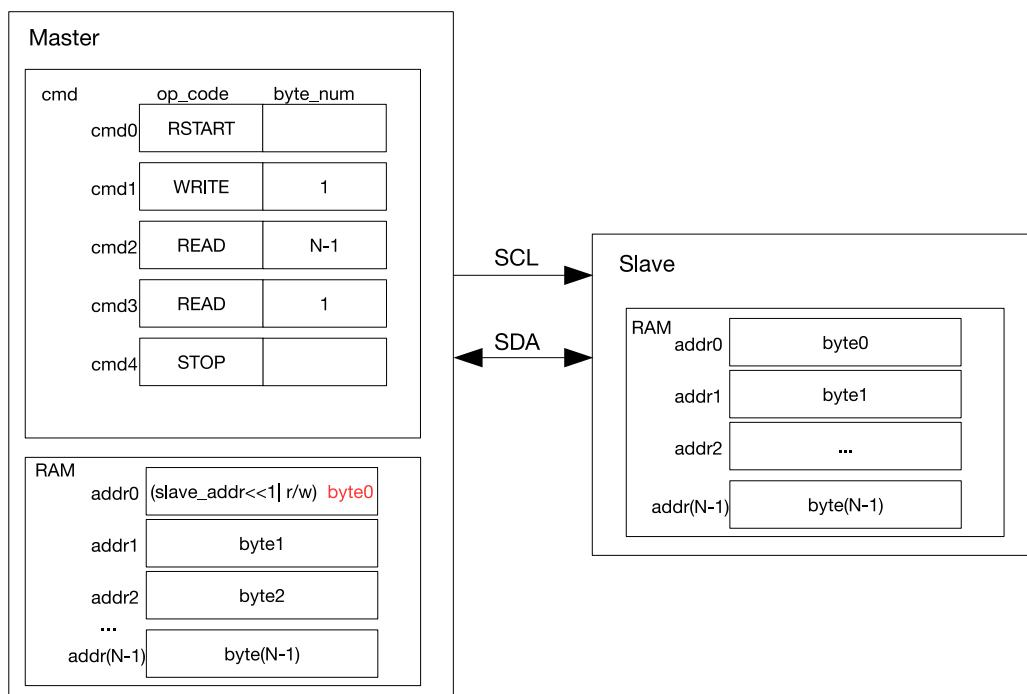

Figure 21-10. $I2C_{master}$ Reading $I2C_{slave}$ with a 7-bit Address
Figure 21-10 shows how $I2C_{master}$ reads N bytes of data from an I2C slave's registers or RAM using 7-bit addressing. cmd1 is a WRITE command, and when this command is executed, $I2C_{master}$ sends $I2C_{slave}$ address. The byte sent comprises a 7-bit $I2C_{slave}$ address and a R/\overline{W} bit. When the R/\overline{W} bit is 1, it indicates a READ operation. If the address of an I2C slave matches the sent address, this matching slave starts sending data to $I2C_{master}$. $I2C_{master}$ generates acknowledgements according to ack_value defined in the READ command upon receiving a byte.
As illustrated in Figure 21-10, $I2C_{master}$ executes two READ commands: it generates ACKs for (N-1) bytes of data in cmd2, and a NACK for the last byte of data in cmd3. This configuration may be changed as required. $I2C_{master}$ writes received data into the controller RAM from addr0, whose original content (a $I2C_{slave}$ address and a R/\overline{W} bit) is overwritten by byte0 marked red in Figure 21-10.
1. The procedures for Segment0 is similar to Figure 21-10, except that the last command is an END.